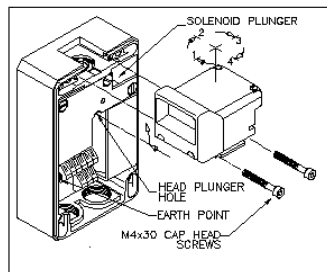

Fig 1: Rotating the Head
3. Remove the Tongue assembly from the unit by depressing the Solenoid Plunger (see fig 1) and pulling the tongue out of the head.
5. The Locking Head may be rotated in increments of 90° to suit the installation. If the head is to be repositioned, refer to fig 1 and continue.
ii. Depress the solenoid plunger and hold against the spring pressure. Insert the electrical screwdriver in the Head Plunger Hole and hold the head plunger against spring pressure (See arrows on fig 1).